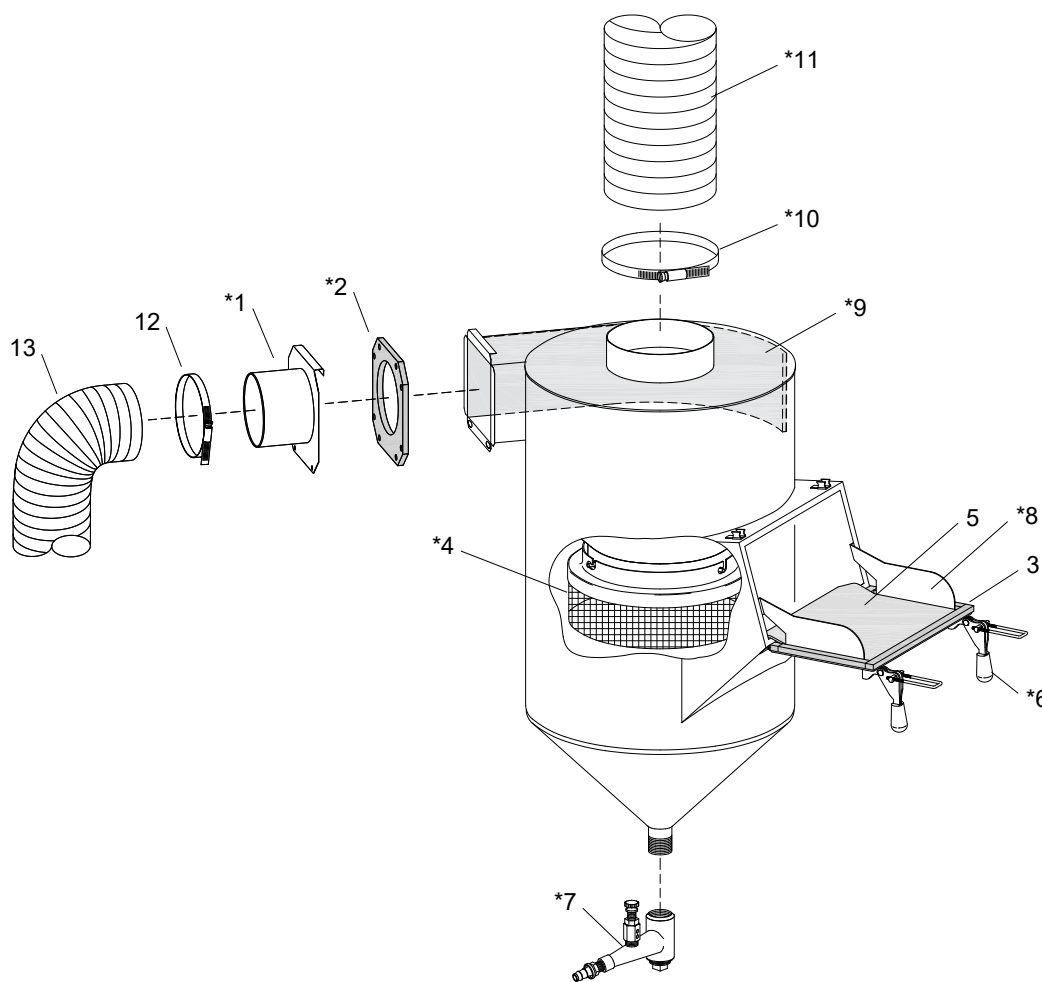

Figure 57
10.10 Reclaimer, 300 CFM – Figure 57